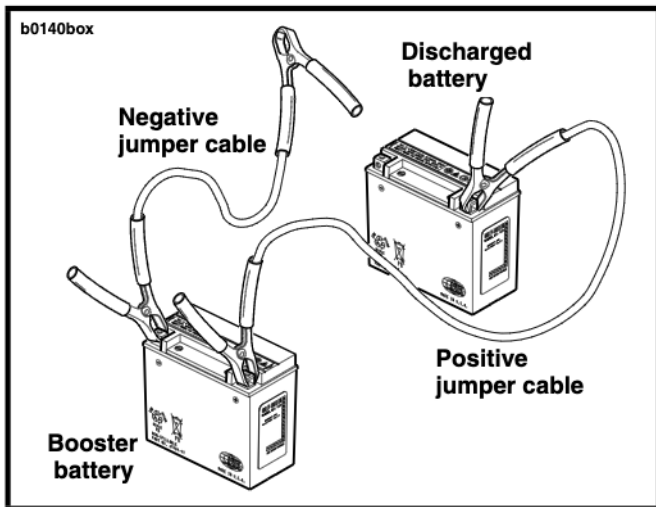

Figure 46. Jump Start Cable Connections
2. See Figure 46. Connect one end of a jumper cable to the DISCHARGED battery positive (+) terminal.